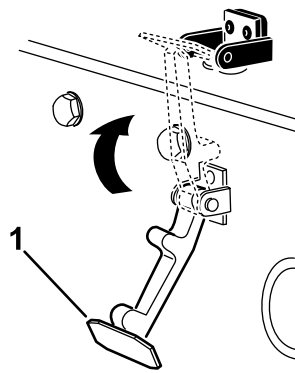

**Figure 24**
6. Rivet the brackets and the washers to the hood (Figure 24).